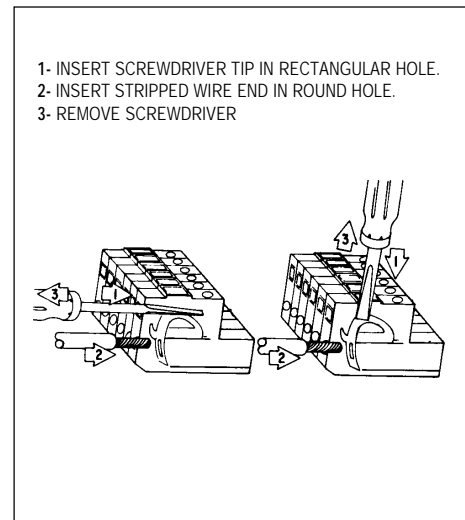

Figure 3.
To avoid damage and ensure proper operation, the red and black wires **MUST** be installed in the seven-position connector as shown in figure 3.
a. Strip 1/4" of insulation off of each wire. See figure 3. Use small blade screwdriver to depress spring in connector, insert proper wire and remove screwdriver to release spring.
b. Connect the red and black 14-gauge wires to the connector as shown in figure 3.
d. Connect the 18-gauge red (BAT/IGN) and green (CASE GROUND) wires to the connector as shown in figure 3.
To avoid damage and ensure proper operation, the wires **MUST** be installed in the seven-position connector as shown in figure 3.